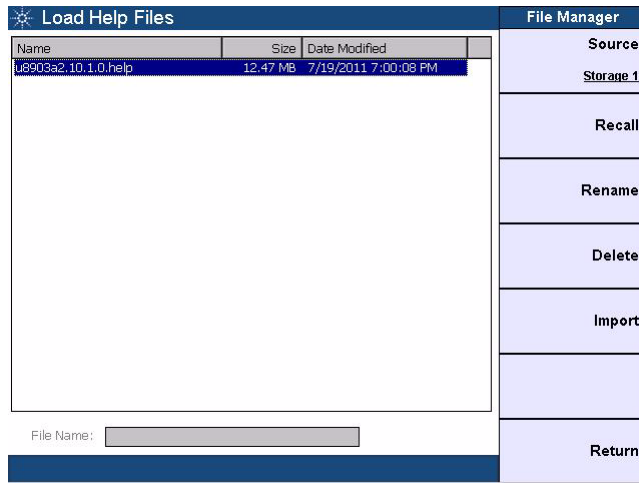

Figure 1-11 Load Help Files file manager
- 4 Select the .cmp file to be updated and press **Recall** as shown in Figure 1-11. Refer to “Recall” on page 103 for more information on the recall file manager.